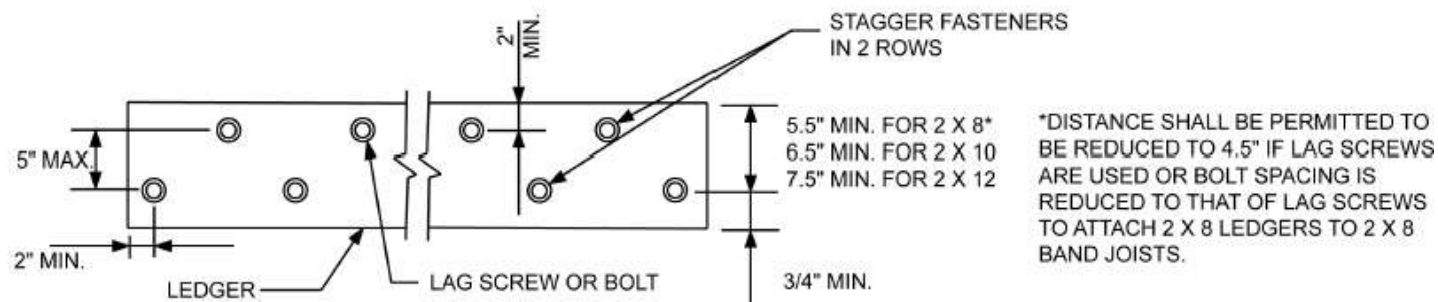

FIGURE R507.2.1(1) PLACEMENT OF LAG SCREWS AND BOLTS IN LEDGERS
- d. The minimum distance from bottom row of lag screws or bolts to the top edge of the ledger shall be in accordance with Figure R507.2.1 (1).